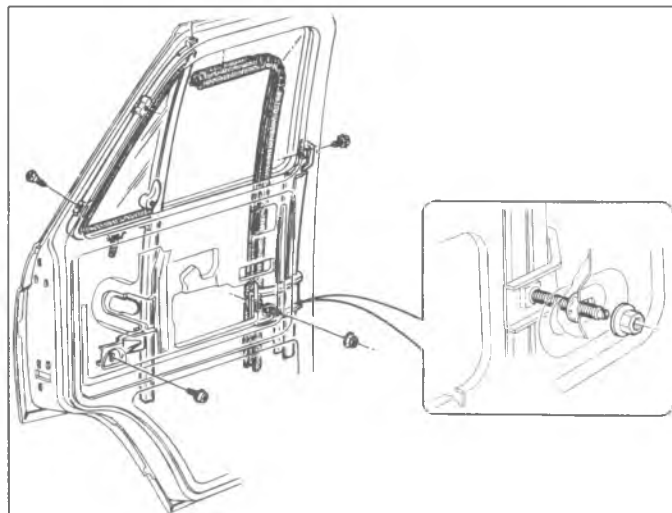

Fig. 15G—Ventilator Assembly
6. Remove three screws at the upper front of the door, as shown in figure 15G.